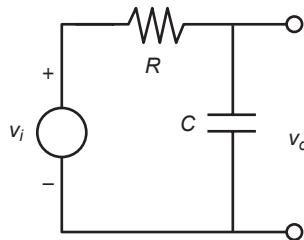

Figure P26
- 26. The circuit shown in Figure P26 consists of a resistor and a capacitor and is thus called an *RC* circuit. If we apply a sinusoidal voltage v_i , called the input voltage, to the circuit as shown, then eventually the output voltage v_o will be sinusoidal also, with the same frequency but with a different amplitude and shifted in time relative to the input voltage. Specifically, if $v_i = A_i \sin \omega t$, then $v_o = A_o \sin(\omega t + \phi)$. The frequency-response plot is a plot of A_o/A_i versus frequency ω . It is usually plotted on logarithmic axes.